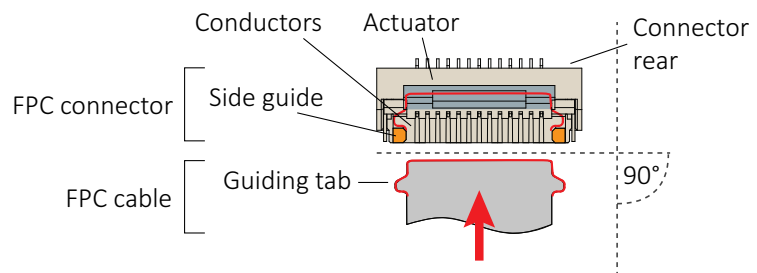
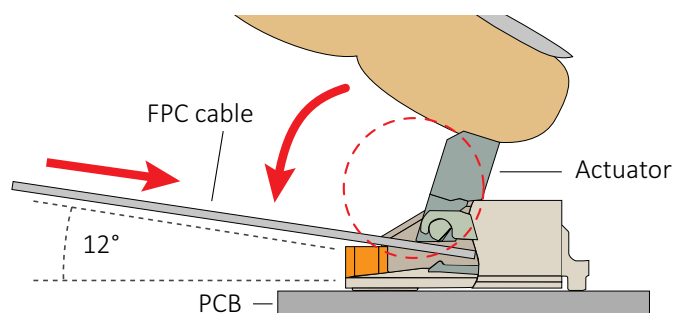

Figure 95: FPC cable and FPC connector
Figure 96: Engaging the FPC cable in the FPC connector
3. **Ensuring proper cable direction between host and camera**, take the FPC cable with conductors facing the FPC connector conductors (see Figure 95).
At a horizontal angle of 90 degrees to the connector's rear (see Figure 95) and at a vertical angle of 12 degrees to the PCB (see Figure 96), slowly insert the FPC cable into the actuator...
5. ...until cable guiding tabs are caught between connector rear and side guides (see Figure 95). Pull the cable slightly to ensure guiding tabs are properly engaged.
6. Holding the FPC cable in position, flap down the actuator to closed position (see Figure 96).